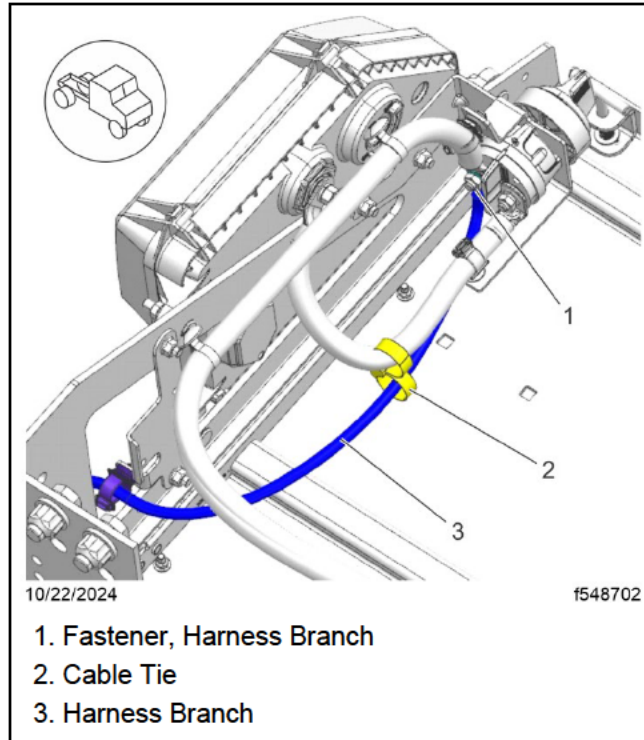

Fig. 4, Disconnecting the Harness Branch from the Manual Battery Cut-Off Switch
12. Disconnect the harness branch terminal from the manual battery cut-off switch and remove the cable tie. See Fig. 4.